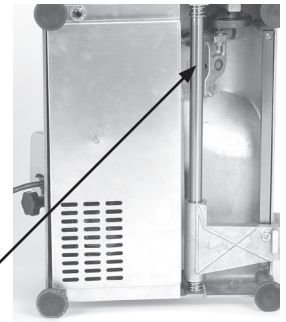

Figure 17-1
3. Put several drops of Globe oil on the slide rod (Fig. 17-1) towards the top of the rod.